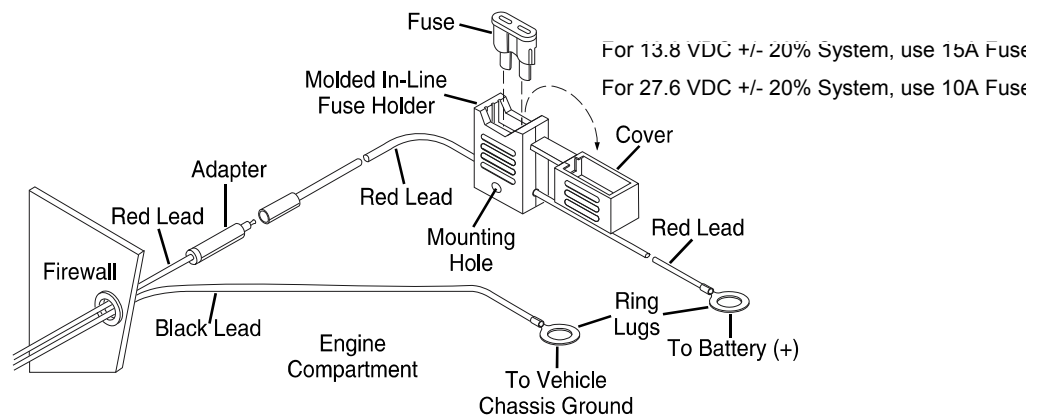

Figure 8
5. Install the supplied ring lugs onto the stripped end of the black lead, and onto the fuse holder at the end of the red lead (see Figure 8).